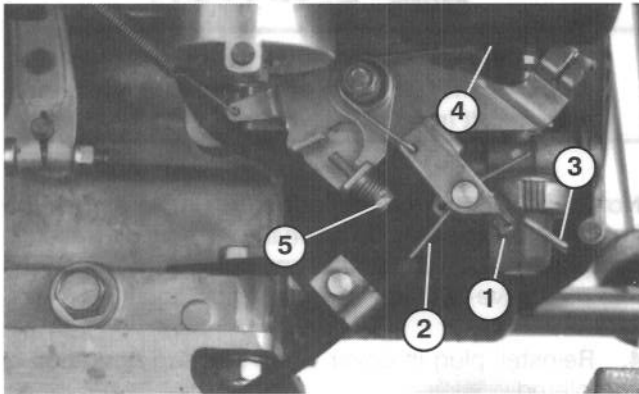

Figure 40
2. Loosen screw securing throttle cable to carburetor arm (Fig 40).